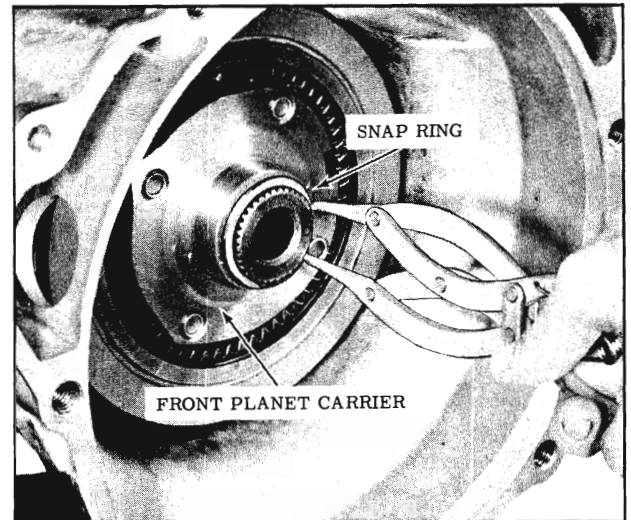

Fig. 3-40 Removing Snap Ring
1. Remove front carrier to carrier shaft snap ring. (Fig. 3-40)